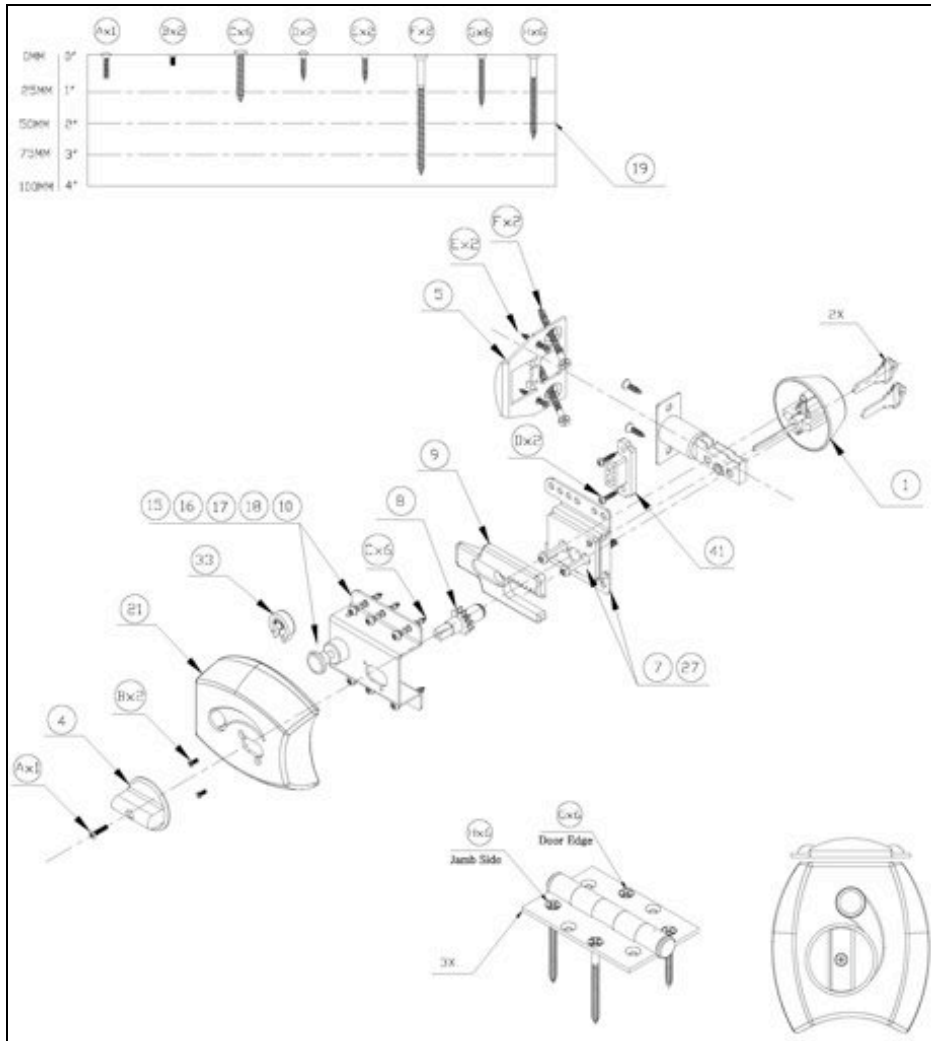

Figure 1
1. Carefully unpack and check that all parts are provided in the package. Identify the parts from the expanded parts drawing Fig. 1. Record your locks' personal Serial Number and date installed: S/N _____ Date: _____ (Look for the S/N stamped or printed on the side of the Impact Cover #10 (15-18) or inside the Lock Cover 21).
3. REINFORCING DOOR HINGES: The hinge side of the door is just as important to strengthen as the lock side. **IF YOUR DOOR JAMB IS STEEL, PLEASE GO TO ITEM 4.)** Figure 1 above shows the twelve "G" and "H" screws provided to *dramatically increase the impact resistance* of the three combined door hinges. This **important step** is highly recommended to connect to the building structure, while also tightening any loose hinges and squaring the door to the door frame **before** the 3000 Lock is installed. Remove four screws from each of the three hinges and drill and install the twelve screws using the long drill as shown. The longer screws "H" go through the door jamb and into the building studs and the shorter screws "G" go into the edge of the door. In both cases, select the screws that enter more solid sections of the wood. This is also an excellent time to lubricate the hinge pins one at a time with any type of grease to stop squeaks and rust.